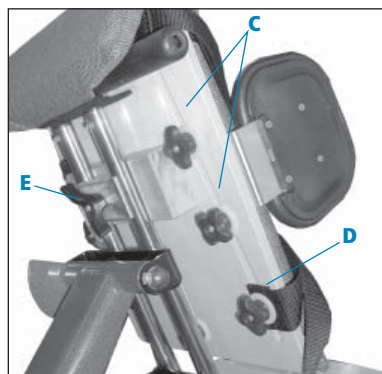

Figure 6b
- Loosen knobs (C) and slide blocks out from under the clamp.
- Retighten knobs (see Figure 6b).